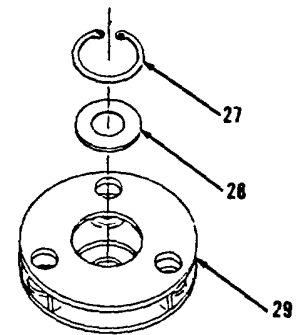
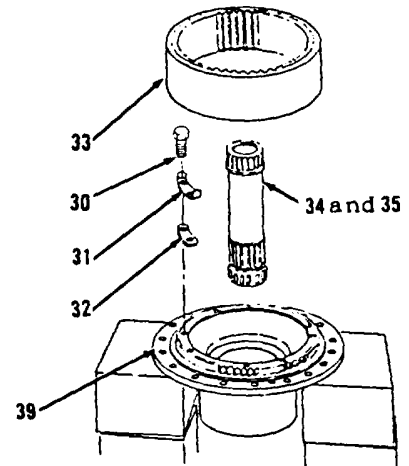
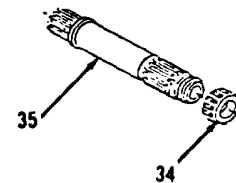
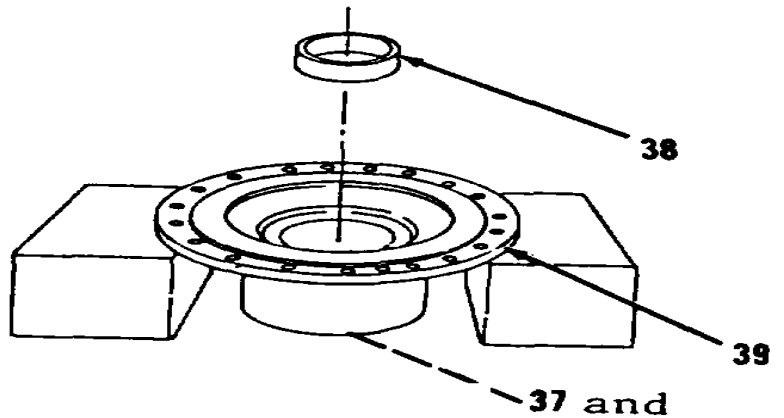

Figure 5-136.
Figure 5-137.
Figure 5-138.
Figure 5-141.
17. Remove retaining ring (27) and washer (28) from planetary carrier (29, Figure 5-136).
18. Remove eight bolts (30), four locks (31) and plates (32) from housing (39, Figure 5-137).
19. Remove gear (33).
20. Remove items 34 and 35 as an assembly.
21. Using suitable puller, remove roller bearing (34) from shaft (35, Figure 5-138).
3. Turn housing over (39, Figure 5-141) with items 37 and 36 as an assembly installed.
4. Lower temperature of new cup (38) and install.
5. Heat roller bearing (34) in oil to maximum temperature of 275 degrees F and install on shaft (35, Figure 5-138).
6. Install items 35 and 34 as an assembly in housing (39, Figure 5-137).
7. Install gear (33).
8. Install four plates (32), locks (31) and eight bolts (30).
9. Install washer (28) and retaining ring (27) to planet carrier (29, Figure 5-136).